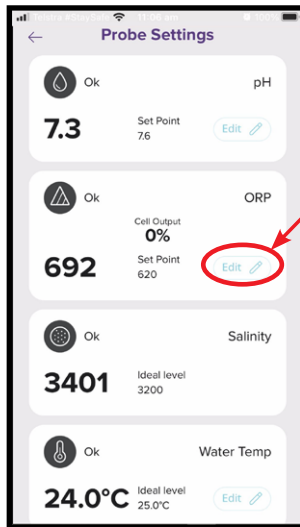

Figure 8.53
- In the probe setting menu, press “edit” (ref figure 8.53)